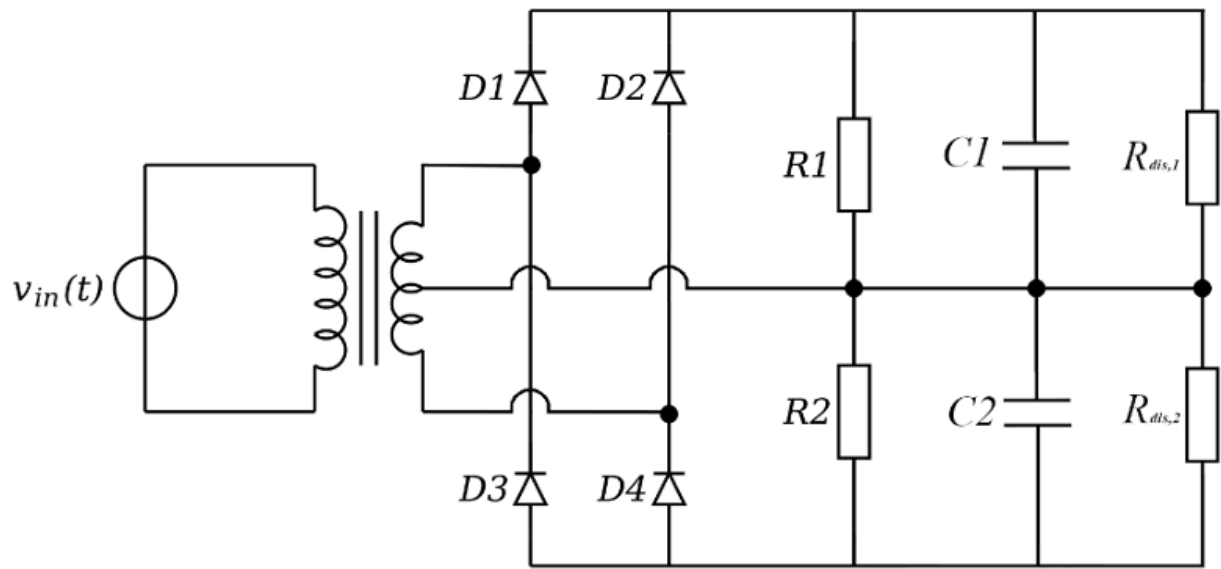

Figure 1
To meet the stated design requirements, a way must be found to keep the ripple voltage as small as practically possible. This can be achieved by carefully selecting the appropriate capacitors ($C1$, $C2$ in figure 1). Also, when the system is powered off, the capacitors must be able to discharge their capacitance. This is where the discharge resistors come in ($R_{dis,1}$ and $R_{dis,2}$ in figure 1). The right resistors with the appropriate resistances should be chosen and applied in the circuit.
- 2 capacitors (C1 & C2 in Figure 1)
- 4 diodes (D1, D2, D3 & D4 in Figure 1)
- 2 discharge resistors (Rdis1 & Rdis2 in Figure 1)
- resistors (R1 and R2 in Figure 1)
The circuit as shown in figure 1 has been simulated in the program LTSpice. Once with 4700 μ F